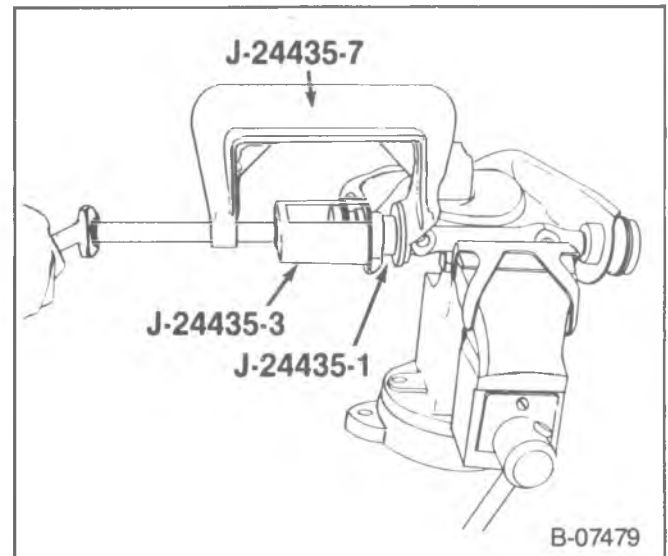

Figure 28—Removing the Upper Control Arm Bushings (R10/1500, G10/1500 and G20/2500 Models)
1. Upper control arm (28).
2. Nuts (24), bushings (26) and the pivot shaft (29) from the upper control arm (28).
- Use J-24435-1, J-24435-3, and J-24435-7 (figure 28).
- Tighten J-24435-7 to remove the bushing (26).
- Pivot shaft (29) can be pulled free at this time.
- Repeat this procedure on the remaining bushing (26). Discard the old bushings.